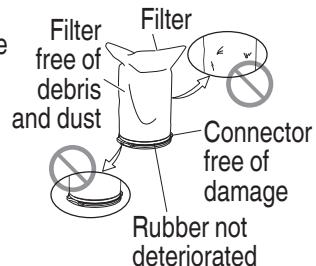

Fig. 8
- (3) Check the filter (**Fig. 8**)